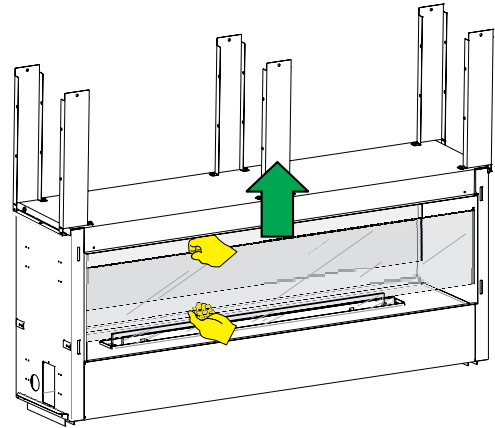

Figure 30
1. Remove the outer glass. See Figures 30 - 32.
1. Remove glass front from fireplace by lifting the glass front up, sliding it to the right, and then carefully angle left side out of the slots. See Figures 30 - 32 (VFL48SP shown).